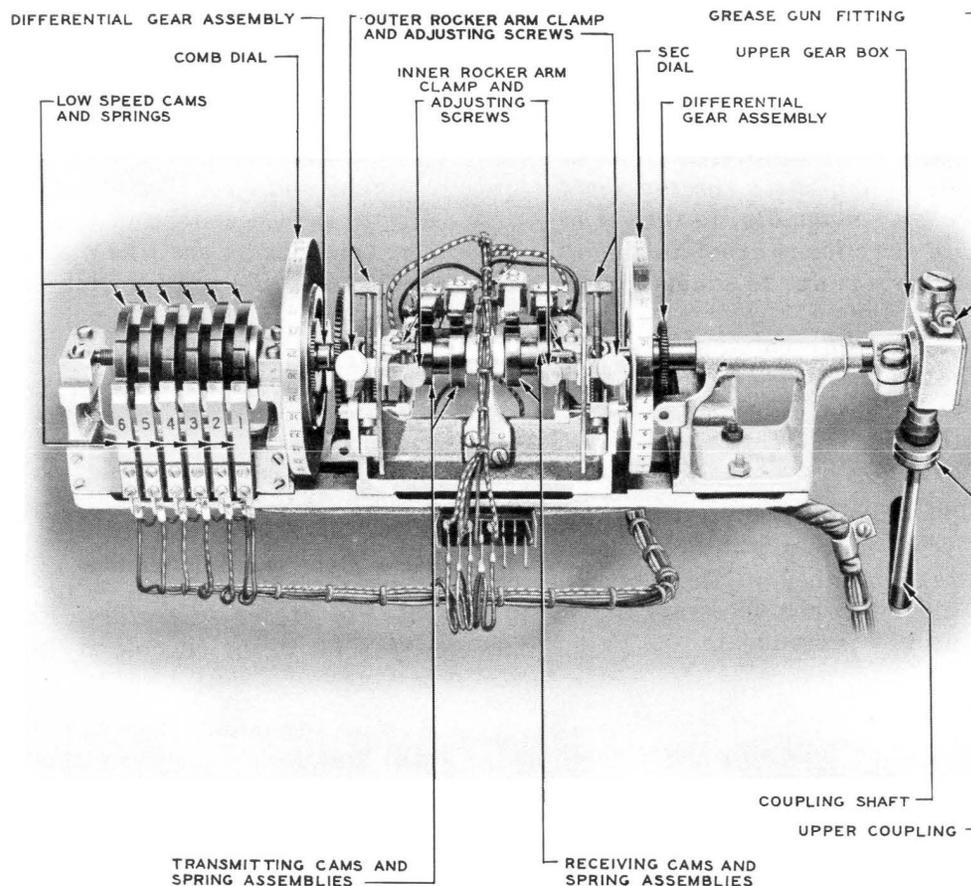
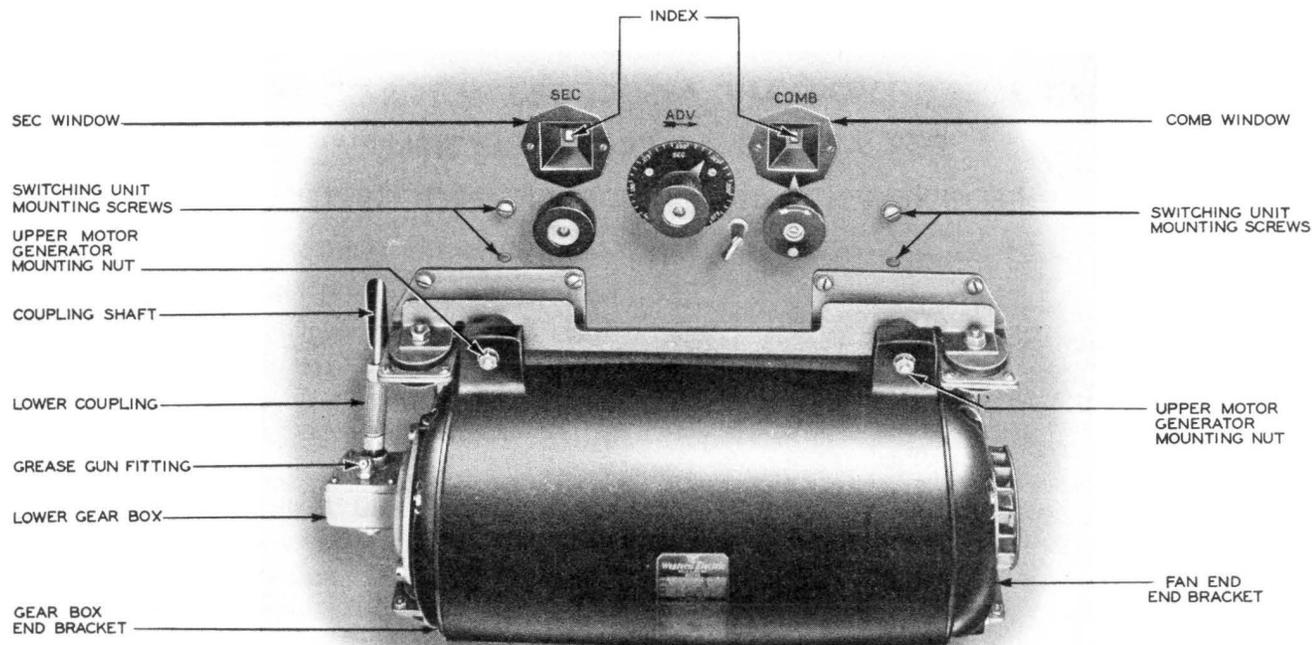

Fig. 1 - D-159393 Cam Switching Unit
Fig. 2 – Motor Generator
1.01 This section covers the D-159393 cam switching unit, Fig. 1, and associated motor generator, Fig. 2, used in the A3 and A5 privacy systems.